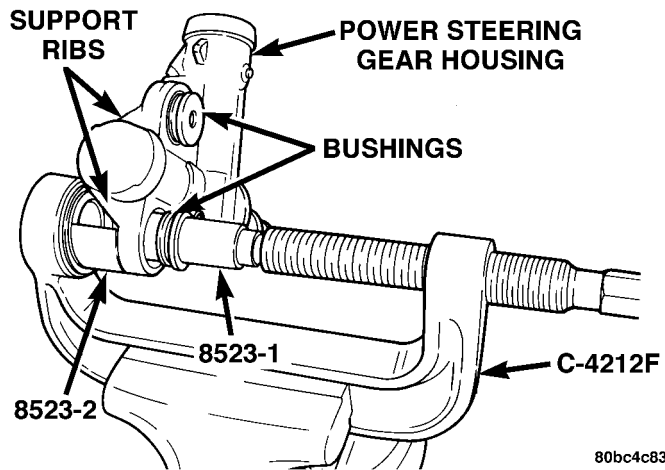

FIGURE 2
4. Position the steering gear housing against the Receiver in such a way that the Receiver does not come in contact with the support ribs on the gear housing. Start the new bushing in the bottom of the housing and tighten the screw drive until the Driver contacts the bushing retainer washer. Slowly tighten the screw drive until the bushing bottoms in the recessed area of the steering gear housing (Figure 2).